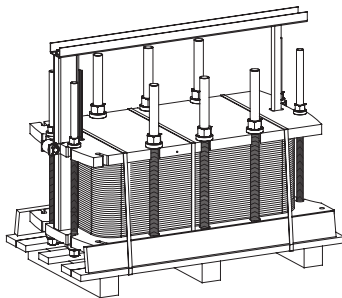

Fig.1a
- Follow the rigging instructions (Figures 1a, 1b and 2).